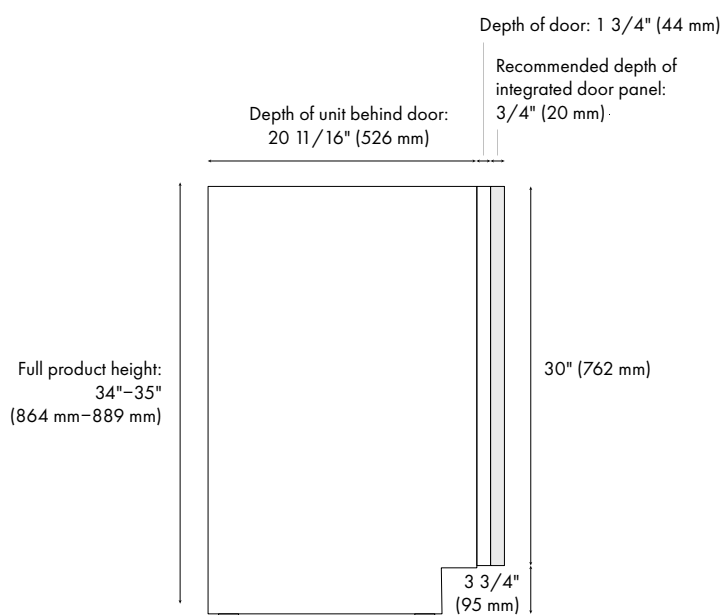

Figure 1
- Figure 1 is a side view of the unit, showing how the panel (in gray) fits over the panel-ready door. A panel depth of no more than $\frac{3}{4}$ " (19 mm) is recommended.